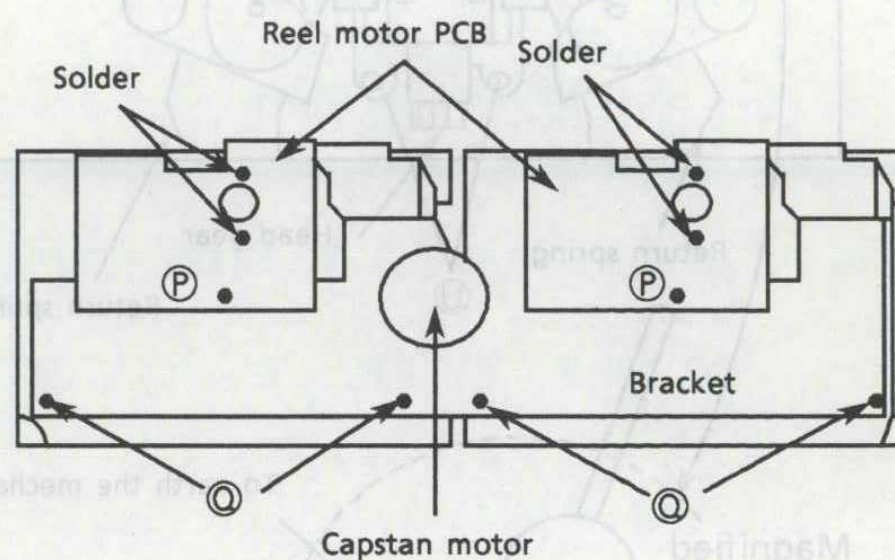

Fig 17
3. Remove the 4 screws \textcircled{Q} fixing the bracket (Fig 17).
3. Remove the screws ④ and the bracket (Fig 17).